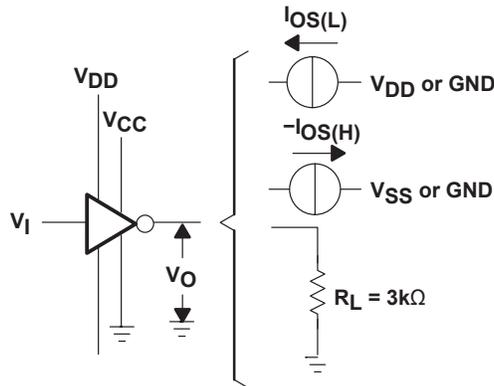

图 6-1. Driver Test Circuit for  $V_{OH}$ ,  $V_{OL}$ ,  $I_{OS(H)}$ , and  $I_{OS(L)}$
| $V_{OH}$    | High-level output voltage                         | $V_{IL} = 0.8V$ ,                | $R_L = 3k\Omega$ , | See 图 6-1           | 6    | 7.5  |       | V        |
| $V_{OL}$    | Low-level output voltage (see (1))                | $V_{IH} = 1.9V$ ,                | $R_L = 3k\Omega$ , | See 图 6-1           |      | -7.5 | -6    | V        |
| $I_{OS(L)}$ | Low-level short-circuit output current            | $V_{IH} = 2V$ ,                  | $V_O = 0$ ,        | See 图 6-1           | 4.5  | 12   | 19.5  | mA       |